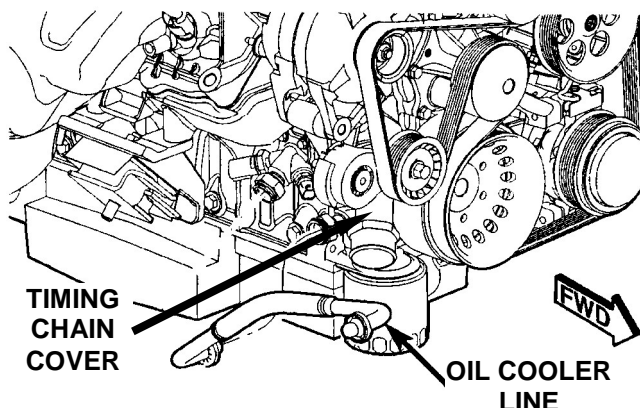

Figure 13
31. Remove the oil cooler line from the timing chain cover using special tool #9005 (Figure 13).
48. Install the oil cooler line onto the timing chain cover (Figure 13).